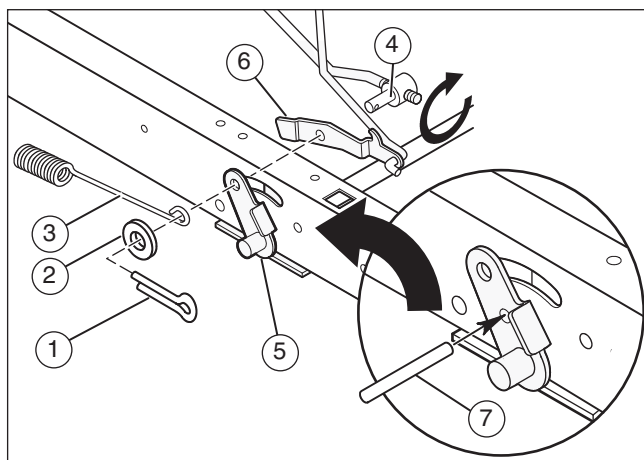

Figure 11
2. Remove the cotter pin (1), washer (2), and brake spring (3) from the adjustable nut (4) (see Figure 11).
3. Disconnect the adjustable nut from the brake lever assembly (5) and the parking brake latch (6).
4. Align the hole in the brake lever (5) with the hole in the frame. Hold the brake lever in place with a 6 mm pin or bolt (7).
6. Assemble the adjustable nut to the parking brake latch, brake lever and brake spring. Fasten with the washer (2) and cotter pin (1).